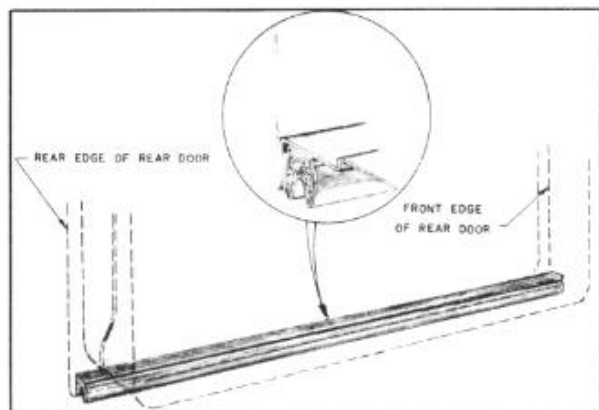

FIGURE 31
4. Remove old cement, dirt and rust and apply rubber cement to the double-lip type weatherstrip and to the door. Cement should be applied to the top and outside of weatherstrip for its entire length and positioned as shown in insert, Figure 31.